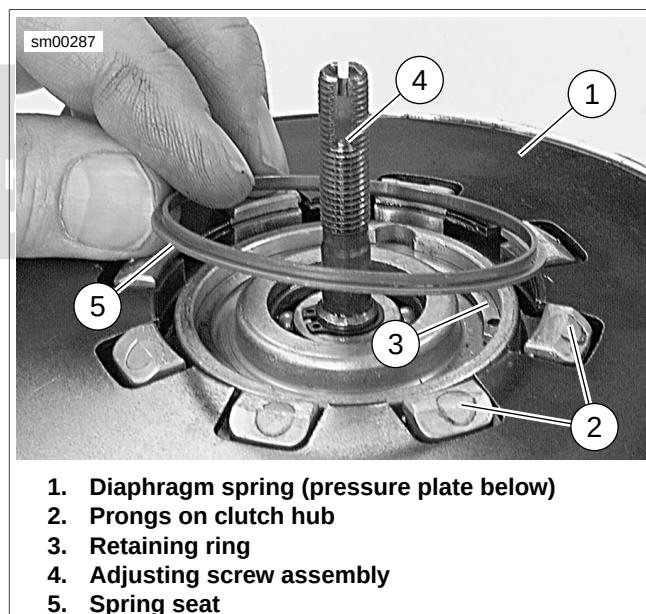

Figure 5-37. Spring Seat Installation
- a. See Figure 5-37. Align square openings of pressure plate and diaphragm spring so that the assembly can be installed over prongs on clutch hub.